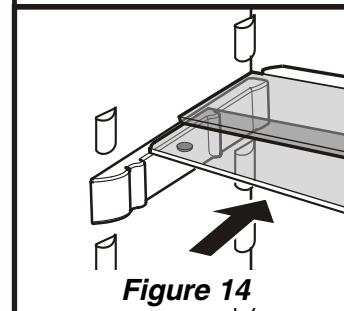

Figure 14
Insert the glass shelves as shown in figure 14.
- **Figure 14**